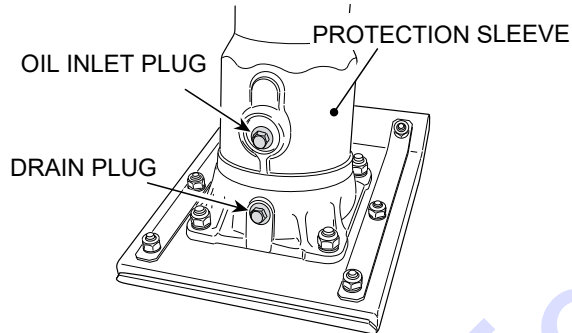

Figure 11. Oil Drain Plug
- Remove the oil drain plug (Figure 11) on foot housing and drain the main body oil.